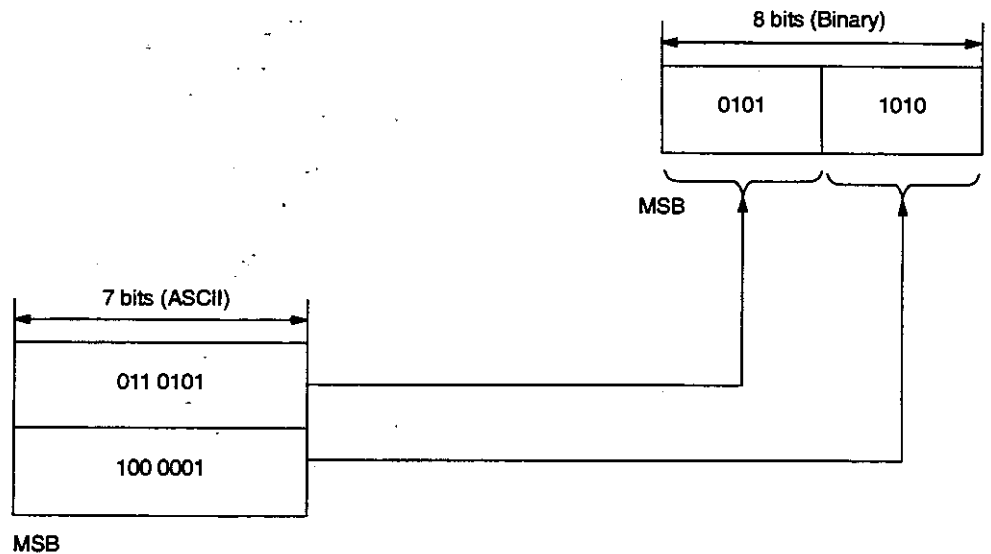

Figure 6.8 Example of ASCII Character Conversion to Binary Code
- Make sure that the leading character in the response message from the slave is a : after all data including the LF is received, and then convert the individual ASCII characters to binary code (4 bits). Arrange each 4-bit segment into MSB and LSB positions as shown in Figure 6.8.